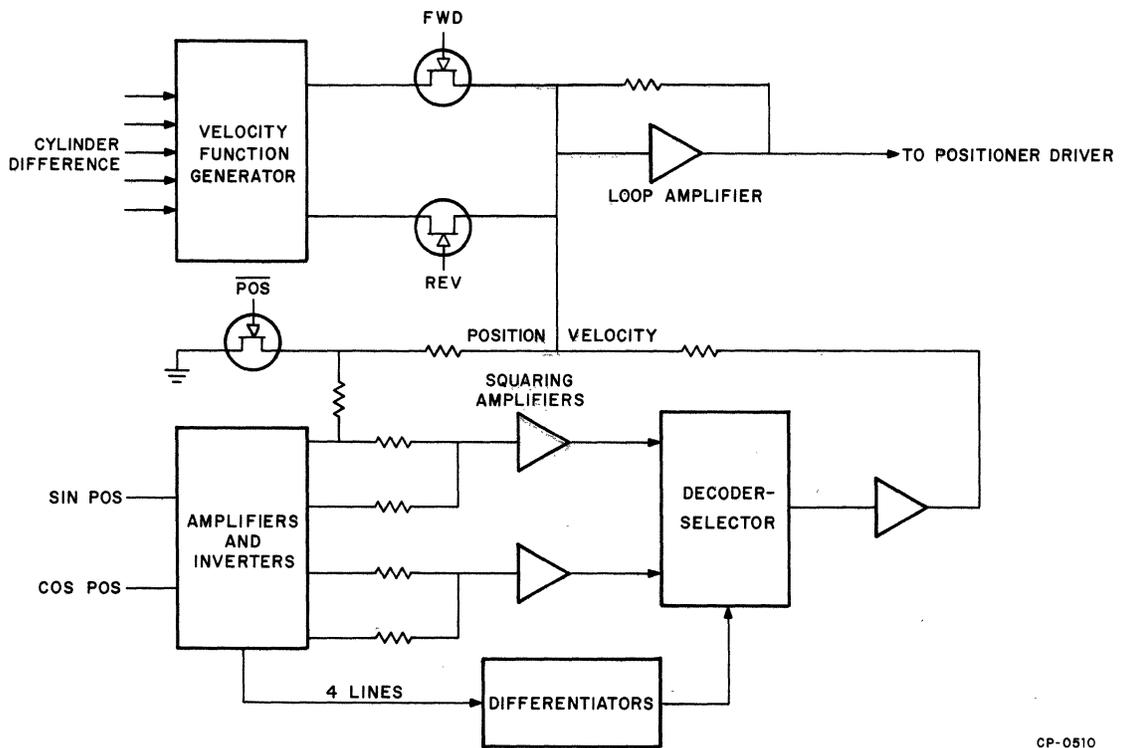

Figure 4-14 Simplified Positioner Servo Logic
4.3.2.2 Velocity Function Generator – The velocity function generator (Figure 4-14) is a 5-bit D/A converter. The generator logic elements are located on the G938 card. The 5-bit digital input to this logic component is derived from the five low order difference bits from the cylinder address and difference logic. During a seek operation, these five bits represent the distance from the present cylinder address to the destination cylinder (Paragraph 4.2.5). If this distance is greater than 31, all five input bits are logic 0, producing a maximum amplitude output signal (velocity command). If the travel distance is less than or equal to 3, all five input bits are logic 1, producing a minimum velocity command. For differences between 4 and 30, the velocity command is proportional to the 5-bit binary representation. The velocity command is connected by field effect transistors (FETs) to the summing node of the loop amplifier. To initiate carriage motion, the FWD or REV signal turns on the appropriate FET, thereby applying the velocity and direction command to the loop amplifier.
4.3.2.3 Velocity Synthesizer – In a closed loop servo system, a speed sensing, feedback control signal is required to prevent uncontrolled velocity within the system. In the RK05, this control or tachometer signal is electronically derived in the velocity synthesizer. Figure 4-14 illustrates the circuit relationship of the logic elements within the velocity synthesizer. These elements are located on the G938 card.